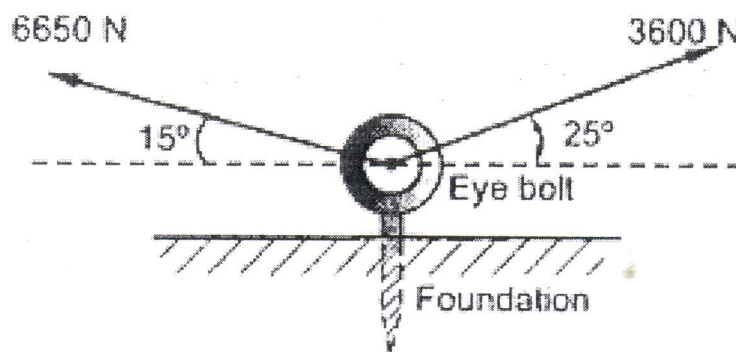

Figure 2
b) Two wires are attached to a bolt in a foundation as shown in figure 2. Determine the pull exerted by the bolt on the foundation.